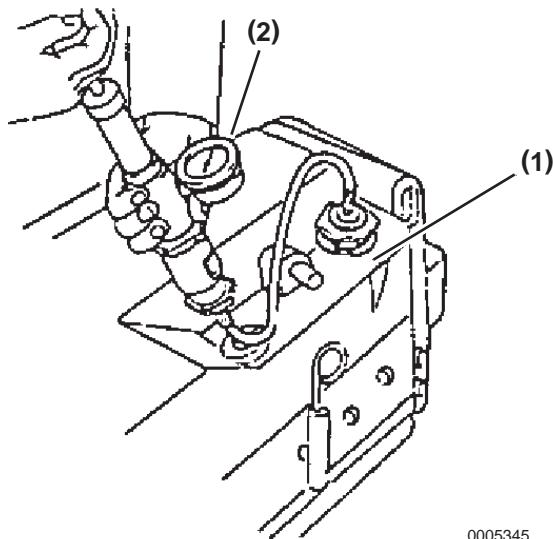

Figure 7-17
4. Check for the fresh water leakage. Fill the freshwater tank (**Figure 7-17**, (1)) and engine with fresh water and bleed air from the freshwater path.
5. Attach the cap tester (**Figure 7-17, (2)**) to the water filler. Increase the pressure to 1.2 kgf/cm² (17 psi) by the pressure cap tester and check that the pressure does not drop. If it does, check the hose, freshwater tank, cooler and freshwater pump for leakage. If no leakage is discovered from the outside, check the cylinder block and cylinder head.